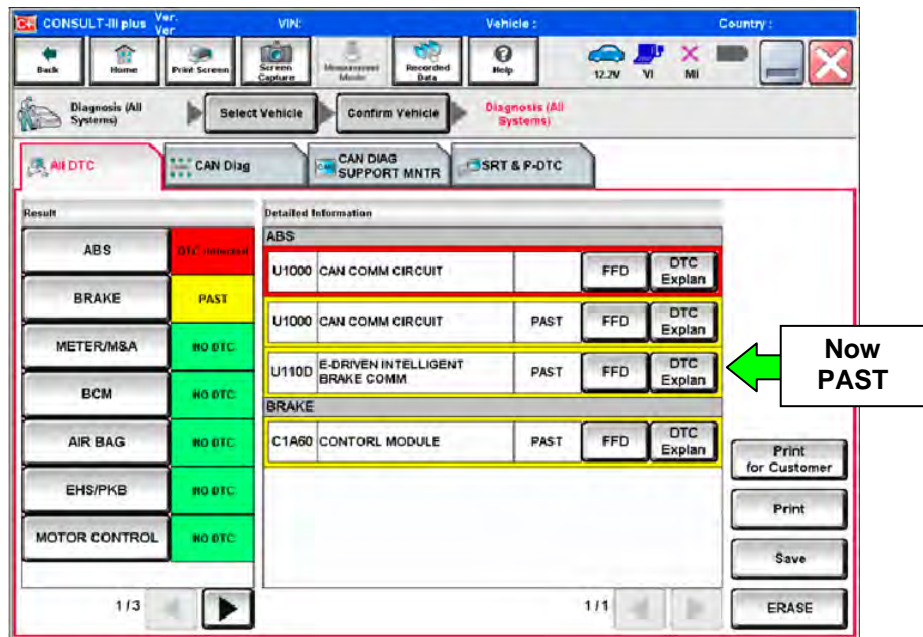

Figure 30
- Figure 30 should now be displayed with U110D as a past DTC.